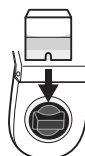

Fig.4
6. Insert the cell into the cell box and press <Start>. (Fig.4)